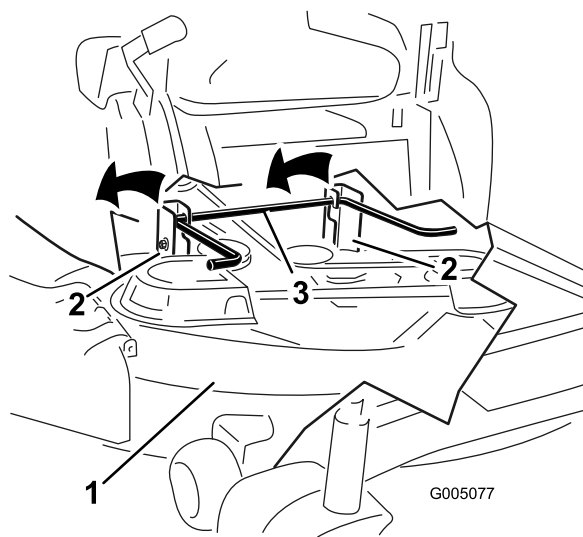

Figure 55
6. Lift the mower deck and hanger brackets clear of the rear lift rod and lower the mower carefully to the ground (Figure 55).
5. Lift the rear of the mower deck and guide the hanger brackets over the rear lift rod (Figure 55).